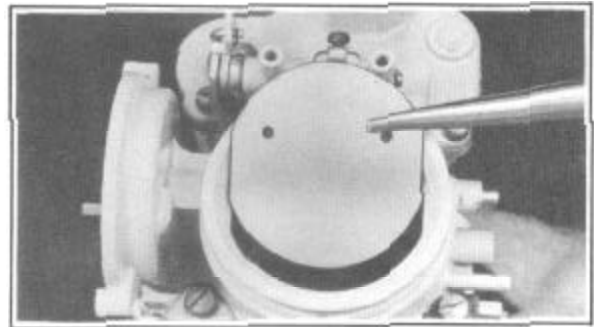

FIGURE 77
21. Install choke valve, Figure 77, using new screws. Center valve before tightening screws. Valve must fall open of its own weight after installation.